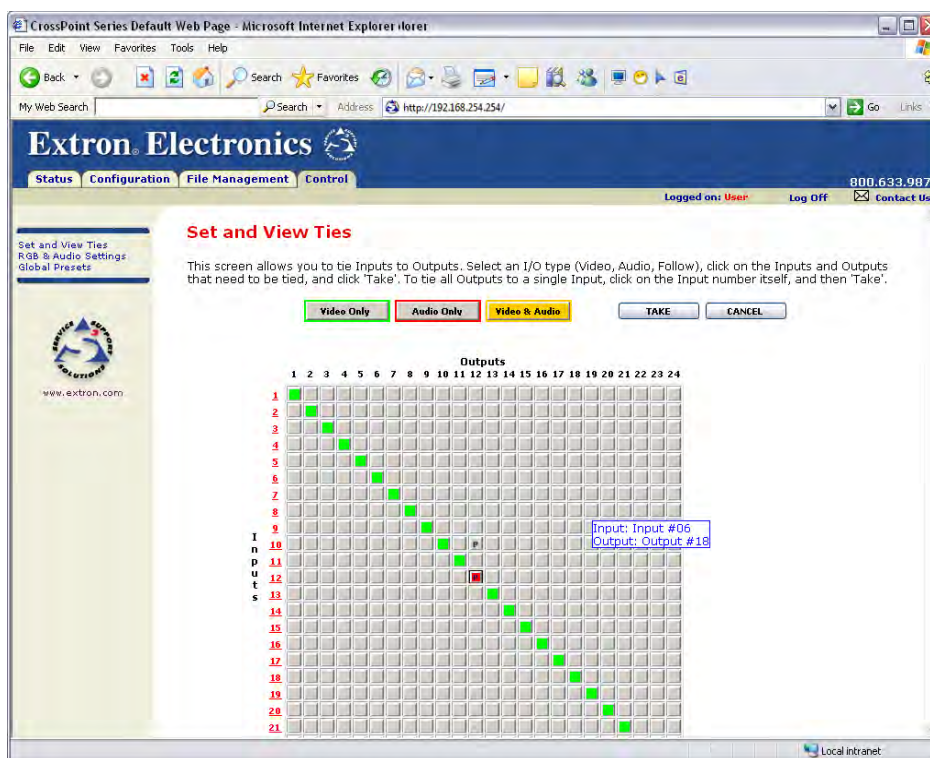

Figure 91. User Control Ties Page
You can create ties on the Set and View Ties page (see figure 91). Access the Set and View Ties page by clicking the **Control** tab.
- If you lose track of the input and output associated with a specific button, let the mouse rest over one of the tie buttons for a moment. A field pops up (as shown on figure 91) that identifies the input and output for that button.